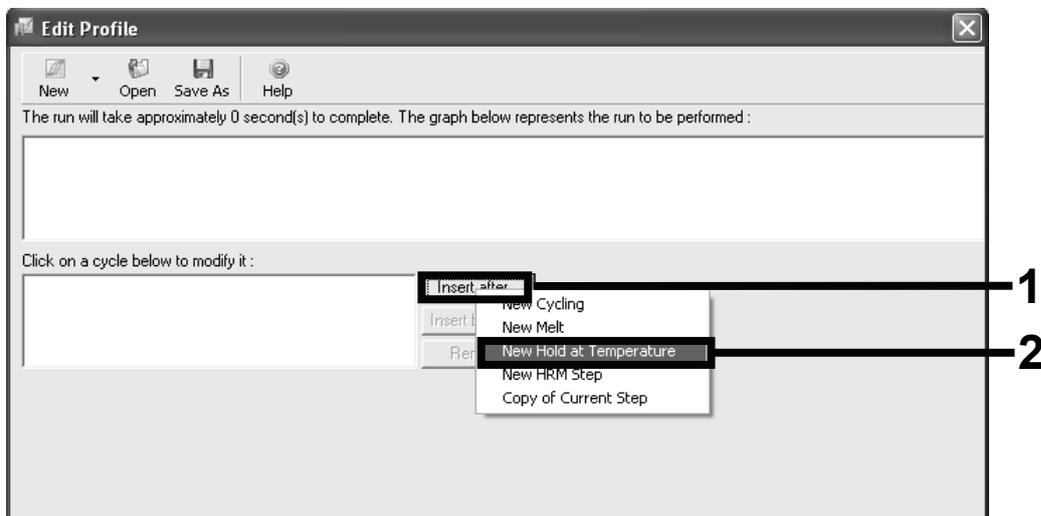

Figure 4. Initial incubation step at 95°C.
Initial activation of the hot-start enzyme	Figures 4, 5
11. Click the "Insert after" button and select *New Hold at Temperature* (Figure 4).